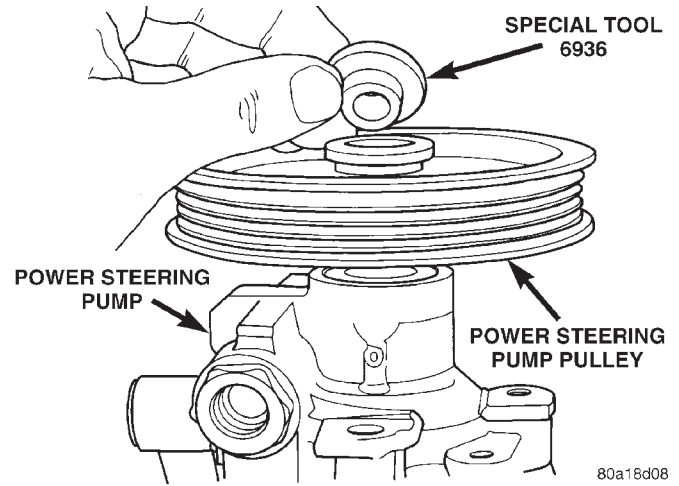

Fig. 59 Spacer Correctly Installed On Power Steering Pump Pulley
(3) Place Installation Spacer, Special Tool 6936 on top of the power steering pump pulley (Fig. 59).